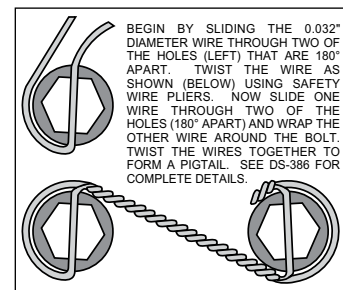
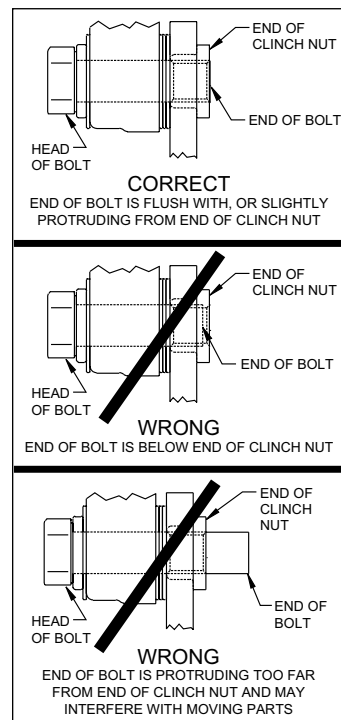

Figure 3. Safety Wire Diagram
Figure 4. Clinch Nut Engagement Diagram
**CAUTION:** All mounting bolts must fully engage clinch nuts. Be sure to check that all bolts are either flush or protruding through flanged side of clinch nut after shimming, Figure 4.
- Install wheel studs (8) into the hub (9), Photo 1. Torque to 77 ft-lb. **NOTE:** There are two five lug patterns in the hub (5 x 4.50 and 5 x 4.75). Ensure the correct hub stud pattern is being used to fit the wheel application.
- Pack the large inner bearing cone (10) with high temperature disc brake bearing grease (available from your local auto parts store) and install into the backside of the hub (9), Photo 2.
- Install the grease seal (11) by pressing into the backside of the hub (9), flush with the end of the hub, Photo 2.
- Orient the rotor (13) and the rotor adapter (12) as shown in Figure 1 and Photo 3, with the flat side of the rotor mounted to the rotor adapter. Attach the rotor to the adapter using bolts (14). Apply red *Loctite*® 271 to the bolt threads and torque to 25 ft-lb using a criss-cross pattern. For an added measure of security, the bolts may be safety wired using standard 0.032 inch diameter stainless steel safety wire as shown in Figure 3. Please refer to Wilwood's data sheet DS-386 (available at [www.wilwood.com/Pdf/DataSheets/ds386.pdf](http://www.wilwood.com/Pdf/DataSheets/ds386.pdf)) for complete safety wire installation instructions.
- NOTE:** *Please reference the caution statement at the beginning of the assembly instructions.* Mount the caliper (19) onto the caliper mounting bracket (1) using bolts (21) and washers (20), as shown in Figure 1. Initially place one .035" thick shim (22) on each bolt between the caliper and the bracket, Photo 7. Temporarily tighten the mounting bolts and view the rotor (13) through the top opening of the caliper. The rotor should be centered in the caliper, Photo 8. If not, adjust by adding or subtracting shims between the bracket and the caliper. Always use the same amount of shims on each of the two mounting bolts. **NOTE:** *The end of each bolt must be flush with or slightly protruding from the head of the clinch nut, as shown in Figure 4.* If necessary place spare shims between washer (20) and caliper mounting ear to achieve the proper clinch nut engagement. Once the caliper alignment and clinch nut engagement are correct, remove the bolts one at a time, apply red *Loctite*® 271 to bolt threads, and torque to 40 ft-lb. For an added measure of security, the bolts may be safety wired using standard 0.032 inch diameter stainless steel safety wire as shown in Figure 3. Please refer to Wilwood's data sheet DS-386 (available at [www.wilwood.com/Pdf/DataSheets/ds386.pdf](http://www.wilwood.com/Pdf/DataSheets/ds386.pdf)) for complete safety wire installation instructions.